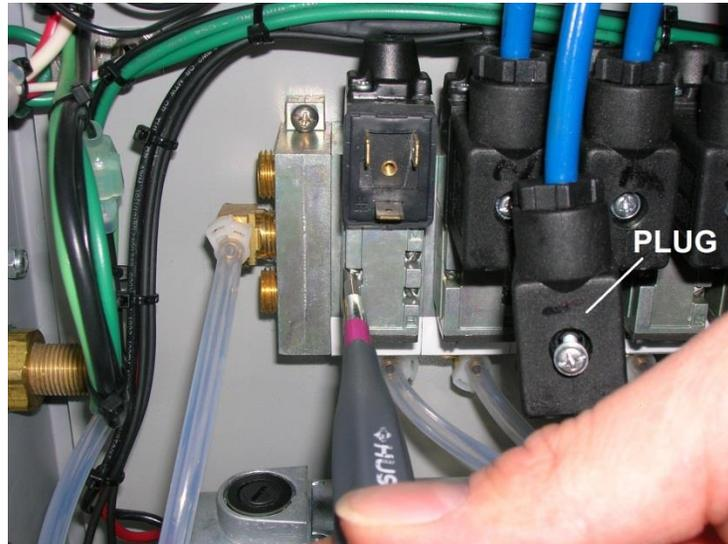
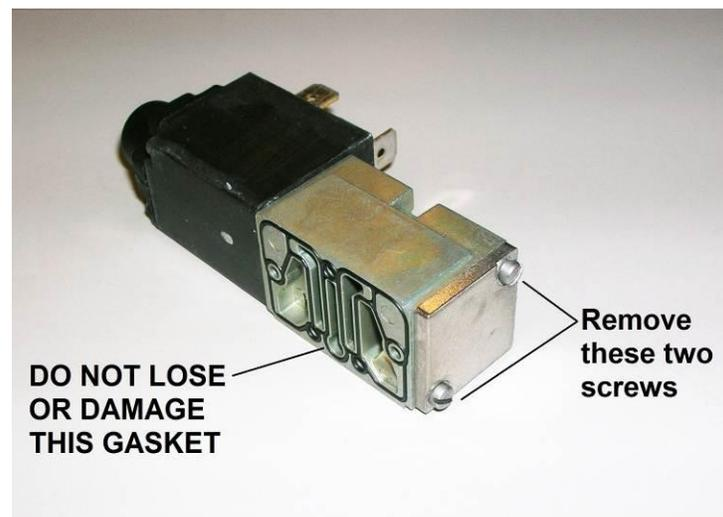
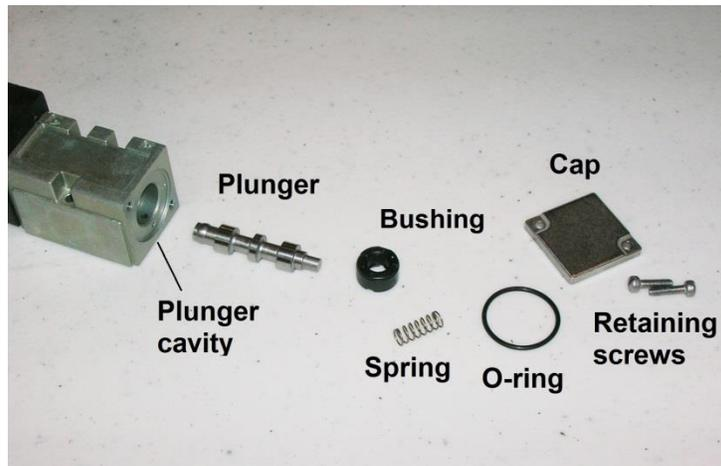

Figure 5-1
Figure 5-2
Figure 5-3
1. Remove plug on solenoid with Phillips screwdriver (do not lose the gasket for the plug) (Figure 5-1).
2. Remove the three screws and solenoid with a small flathead screwdriver (Figure 5-1). Note the black gasket on the underside Figure 5-2). **Do not lose or damage this gasket.**
3. Using the small flathead screwdriver, remove the two screws to the square metal cap (Figure 5-2). Carefully remove the spring, the o-ring, the bushing, and the plunger (Figure 5-3). Clean the plunger and plunger cavity with a spray lubricant and cotton swab.